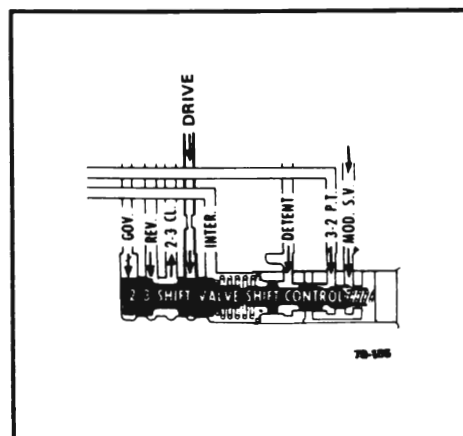

Figure 75-22 - 2-3 Shift Valve
j. 2-3 Shift Valve (See Figure 75-22)